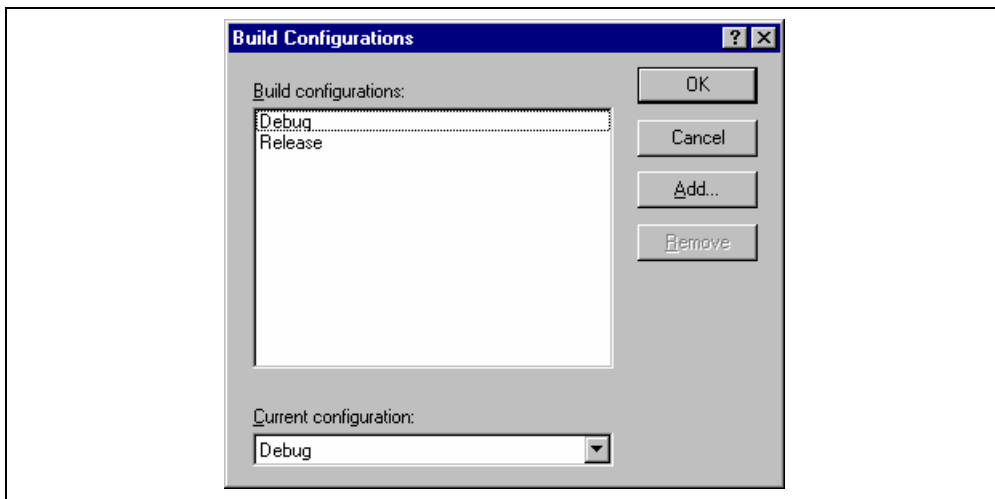

Figure 2.16: Build Configurations Dialog
1. Select **[Options->Build Configurations...]**. This will invoke the “Build Configurations” Dialog (figure 2.16).
1. Select **[Options->Build Configurations...]** to display the “Build Configurations” dialog (figure 2.16).